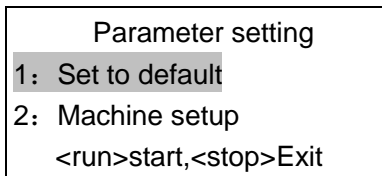
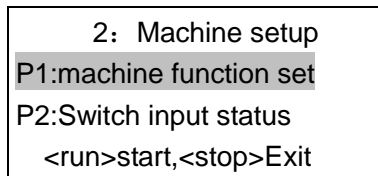

Figure 1
Figure 2
Figure 1 is the main interface for parameter setting. The first line shows the interface title, the second and third lines show the setting item, press down and up keys to select the setting item, and the fourth line shows the operation prompt.
Figure 2 shows parameter Settings -- machine Settings interface, similar to figure 1.
Figure 3 shows the parameter Settings -- machine Settings -- item 1: machine type Settings interface, similar to figure 1, except that line 3 shows the current Settings.